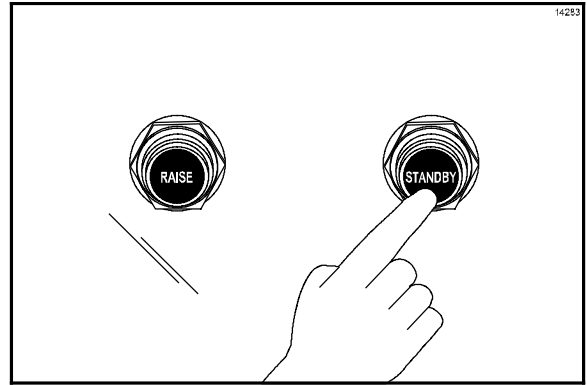

Figure 53
20. Press the black STANDBY button to lower the center platen. (See Figure 53.)